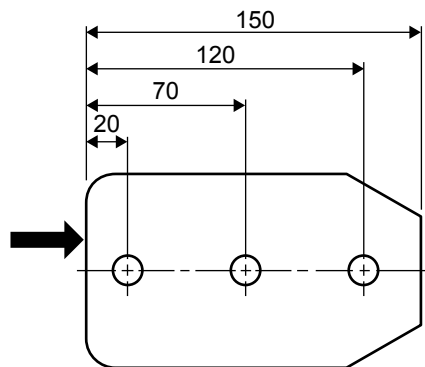

Figure 3
d. When dimensions are taken from an edge, indicated by the arrow in Figure 3, what is this edge called? 1 mark